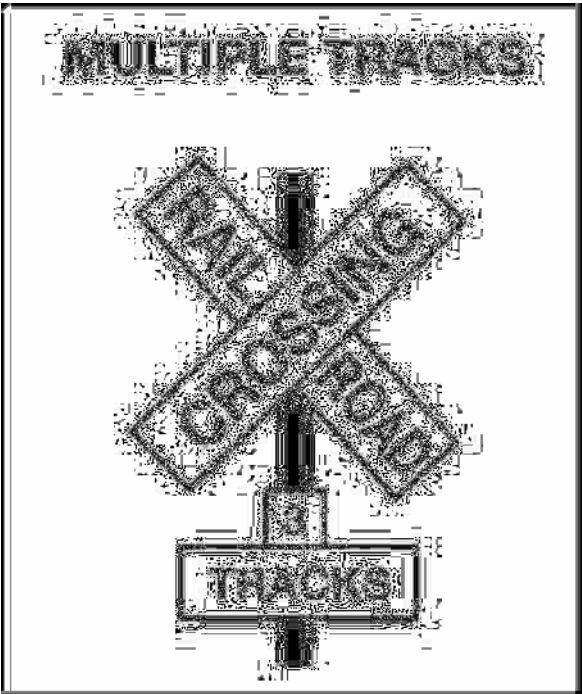

Figure 13.7
**Crossbuck Signs.** This sign marks a passive crossing. It requires you to yield the right-of-way to the train. When the road crosses over more than one set of tracks, a sign below the crossbuck indicates the number of tracks. See Figure 13.7.